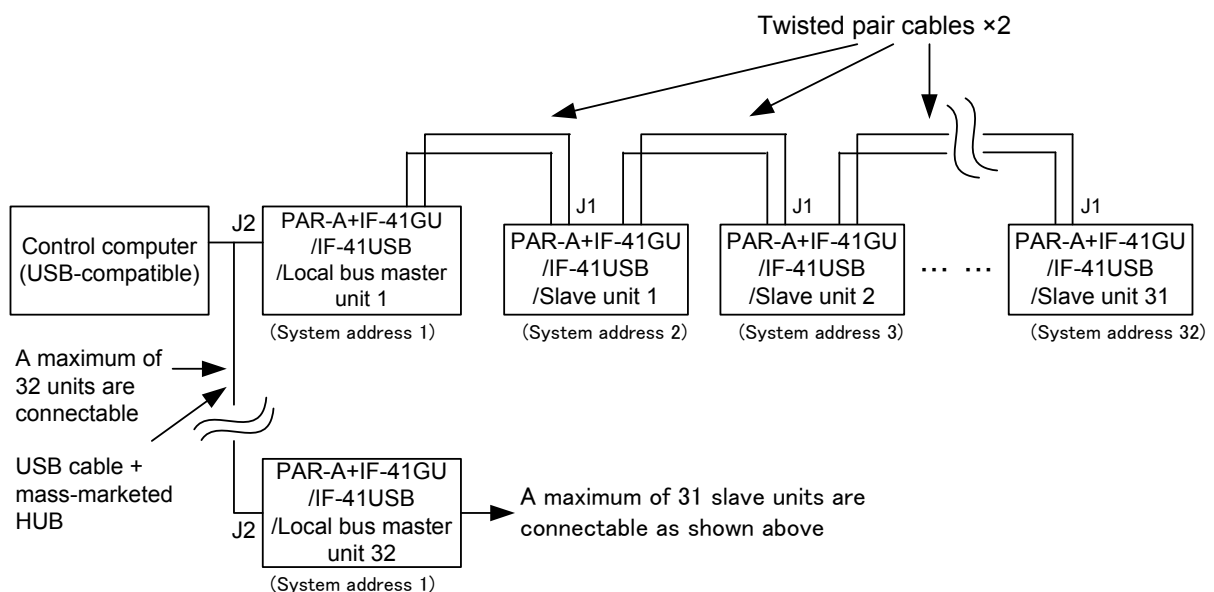

Fig.17 Remote Control through USB using IF-41GU/IF-41USB
- It is possible to connect a maximum of 32 local bus master units (except HUB) directly with a computer using USB cable. It is possible to connect a maximum of 31 slave units with each local bus master unit connected directly with the computer using two twisted pair wires. Fig.17 shows the connection diagram.